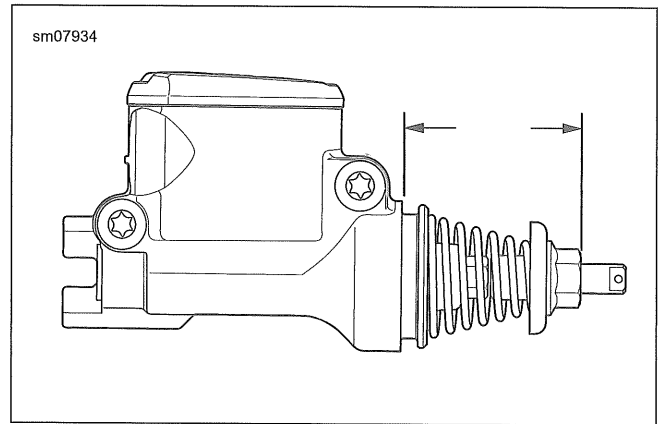

Figure 3-45. 1.92 in (48.8 mm)
- h. Install retaining ring (14). Verify that retaining ring is completely seated in groove.
- i. Install boot (15) over pushrod and into end of master cylinder bore. Press lip of inner boot down around groove in boot collar (13).
- j. Install external return spring (16).
- k. Compress return spring and Install spring retainer (17) and nut (18).
- l. See Figure 3-45. Tighten nut to 1.9 in (48.8 mm) from face of master cylinder to end of hex nut.